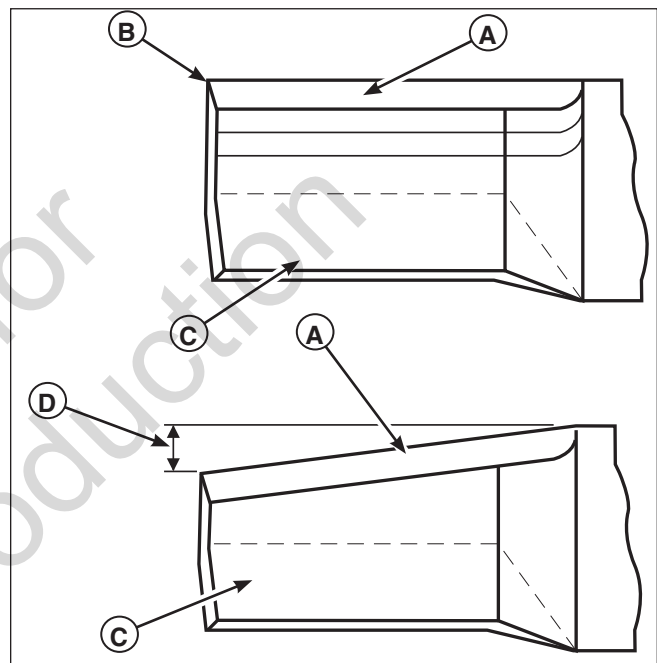

Figure 27. Inspecting the Mower Blade Tips
2. Inspect the mower blade (Figures 27 & 28). **Discard the mower blade if it has any of the below conditions.**
- A.) Has more than .5" (12,7 mm) of the mower blade metal removed from previous sharpening or wear (D, Figure 27).